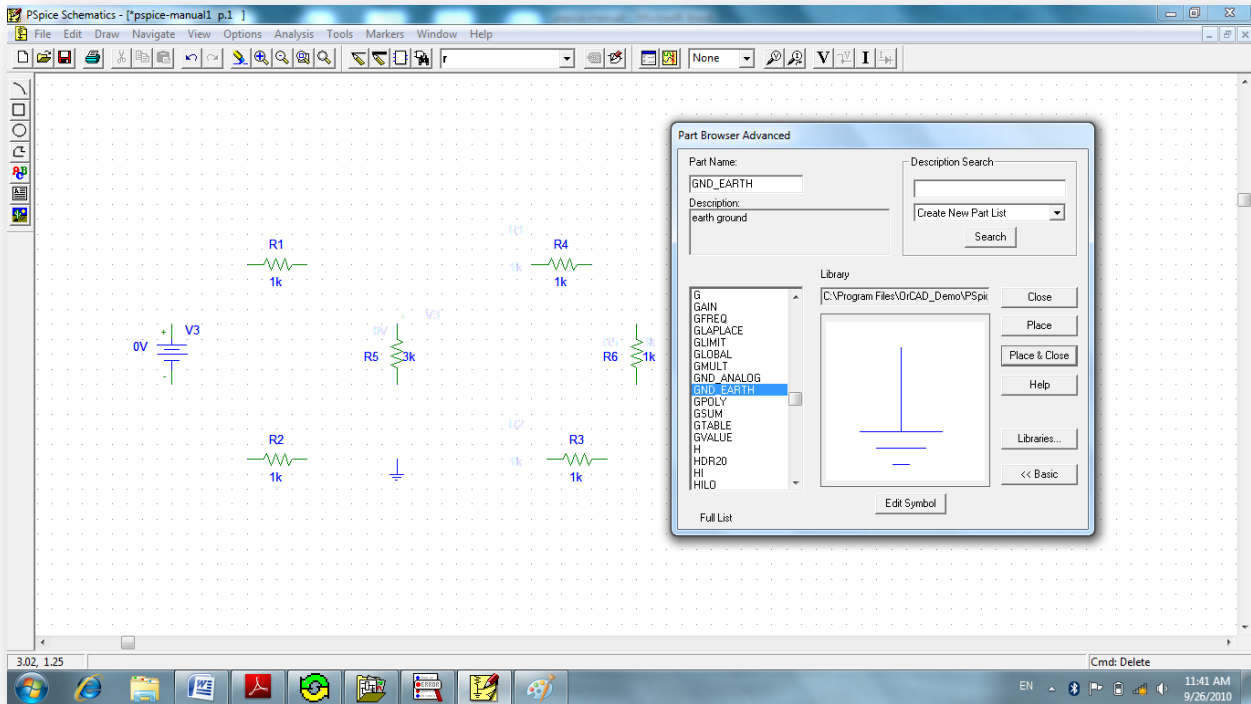

Fig.3.3: Placing the earth ground.
- 5- Do the same to place the resistors by typing R in the part name space then place how many resistors you need. you can rotate any one of the circuit components by pressing (**Ctrl+R**) you also need to determine the circuit ground, to place the ground type **GND** as shown in the following **Fig3.3**.